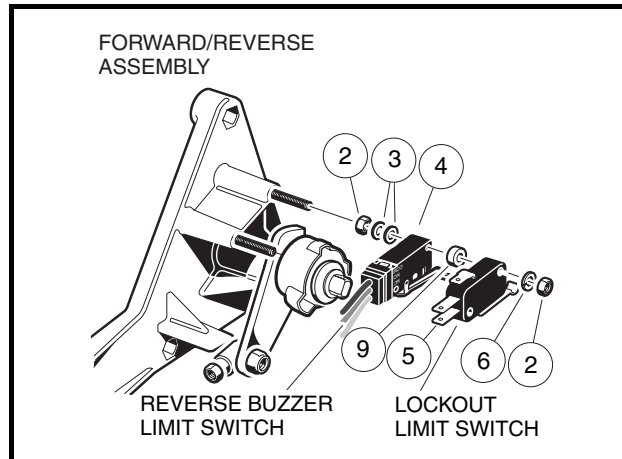

Figure 12-20 Lockout Cam and Reverse Buzzer Limit Switches
3. Disconnect the wires from the lockout cam limit switch (5) located on the back of the Forward/Reverse shifter assembly (Figure 12-20, Page 12-18).
4. Remove two nuts (2) and washers (6) from the lockout cam limit switch (5) and slide the lockout cam limit switch off of the screws.
1. Install the limit switch (5) with washers (6) and nuts (2) and tighten to 5 in-lb (0.6 N·m) (Figure 12-20, Page 12-18). Place the Forward/Reverse handle in REVERSE to make sure that both switches actuate. See following CAUTION.
3. Disconnect the wires from the reverse buzzer limit switch (4) located on the back of the Forward/Reverse assembly (**Figure 12-20, Page 12-18**).
4. Connect the orange wire to the black wire (COM) terminal and the red/white wire to the blue wire, normally open (NO) terminal of the reverse buzzer limit switch (4) (**Figure 12-20, Page 12-18**).